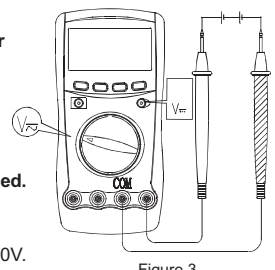

Figure 3
A.Measuring DC Voltage(See Figure 3)